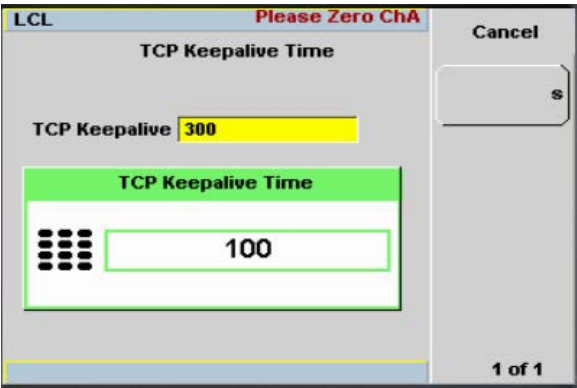

Figure 3-65 TCP Keepalive Time pop-up window
- 2 In the Remote Interfaces menu, press **1 of 2** and select **TCP Keepalive**. The TCP Keepalive Time window is displayed (see Figure 3-65).
A TCP Keepalive Time pop-up window is displayed. You are required to enter time (in seconds) to set the timeout period for the LAN socket connection (see Figure 3-65).